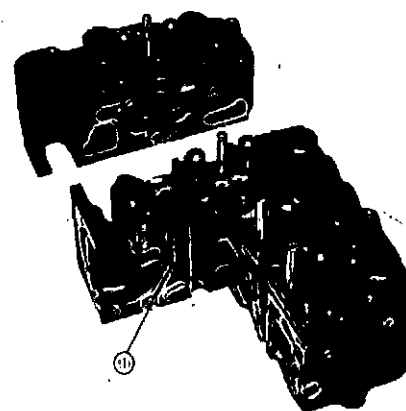

Fig. 2-3 (N10266). The Oil Passage In The Cylinder Head.
4. Check the oil passage (1, Fig. 2-3) and make sure it is open.